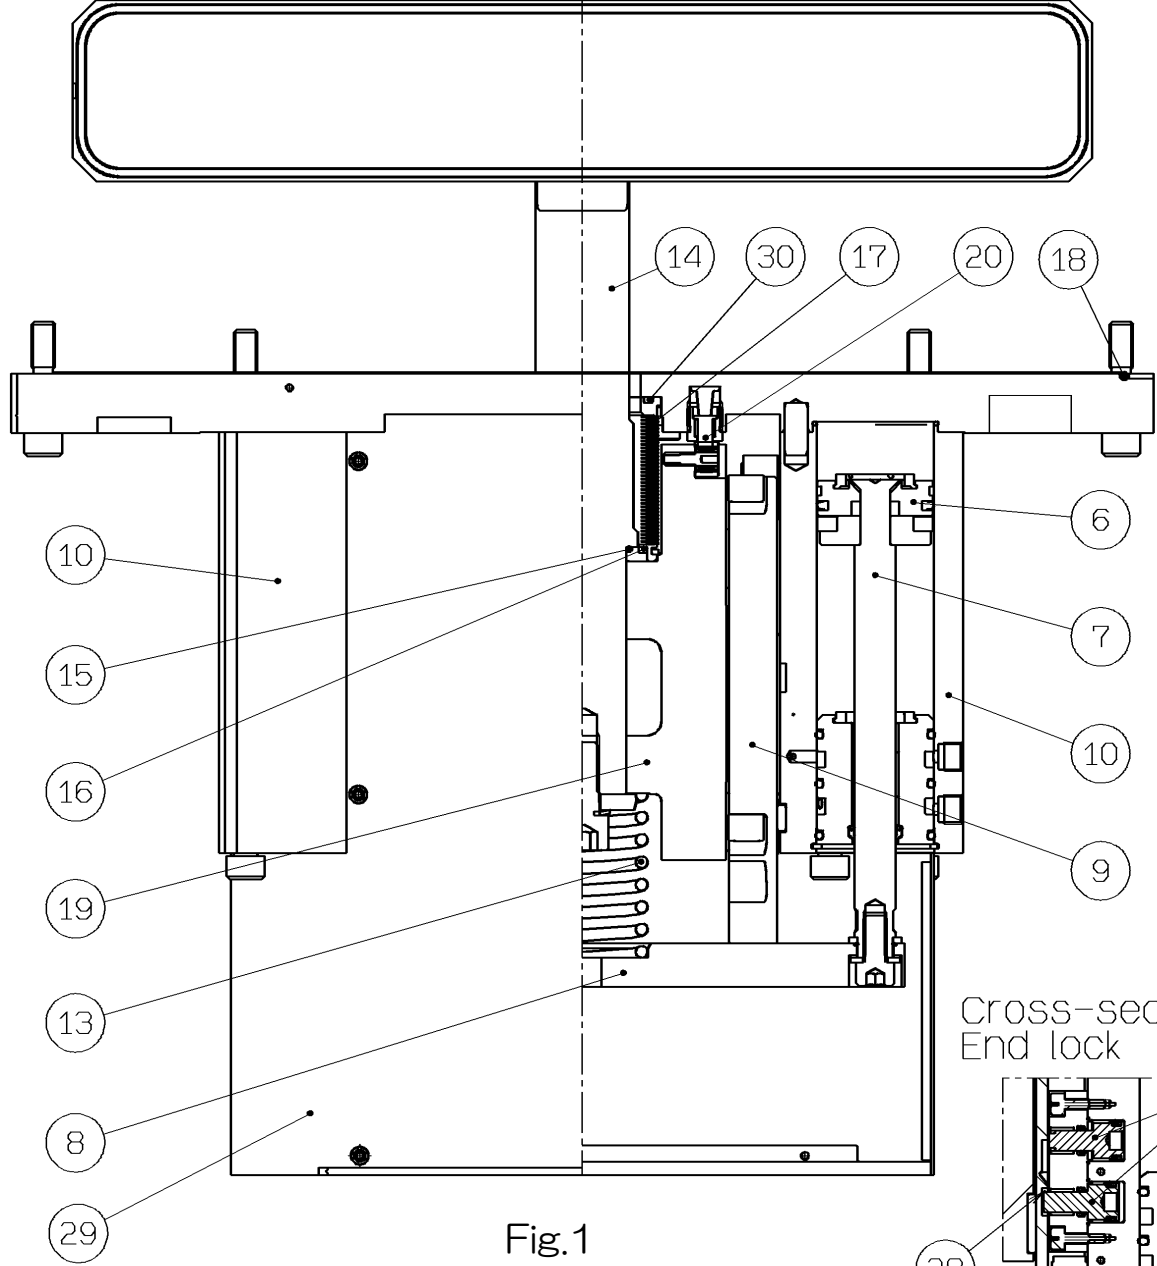

Fig.1
Figures 1 and 2B show the state in which Slit ① carrying the work piece is closed and Gate ③ (Sealing material ④) is not clamped (sealed) on Seal surface ②.
In Figures 1 and 2, Piston rod ⑦ integrated with Piston ⑥ and Moving base ⑧ are connected by a displaceable mechanism. And Roller block ⑨ is fixed to Moving base ⑧. In addition, Shaft ⑭ fixed to Lever ⑰ is separated from each other by the force of Moving base ⑧ and Spring ⑬. On the other hand, since Lever ⑰ is restricted by Roller block ⑨ and Roller block ⑨ that is guided by Cylinder tube ⑩ and Cam follower ⑪⑫ attached there. So Shaft ⑭ and Roller block ⑨ are mated by reacting force of Spring ⑬ then it is possible to move up and down together. Also regarding the external seal, Shaft⑭ moving up and down is done with Bellows ASSY ⑰ and O-ring ⑮⑯⑰. And Static seal part of Bonnet ASSY and Body ⑤ is done with O-ring ⑱.
- (5) Do not remove the Cover (Fig.1②) on the actuating part. And if it is touched the internal actuating parts while the slit valve is operating may result in injury.
- (6) Remove the pneumatic piping for operation and make cylinder have no pressure inside for maintenance otherwise cylinder is operating and makes dangerous. When tube is removed please shut off the pressure and ensure that stored energy is removed. Otherwise tube is removed the tube will be out of control and make loss of vision to employees or injury.